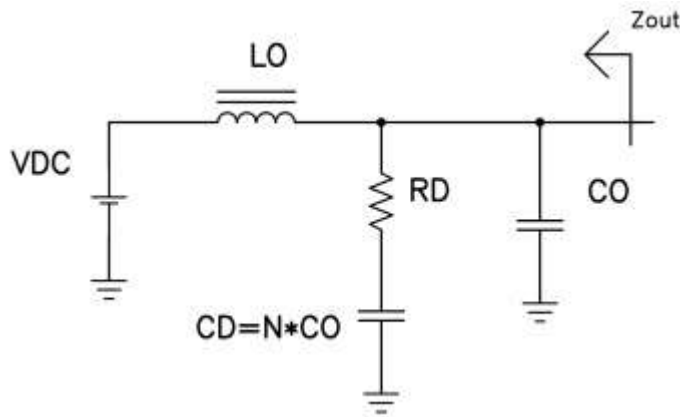

Figure 1: CD and RD damp the output
The design of an input filter usually begins with selection of an input capacitor (CO of Figure 1) based on ripple current rating or hold-up requirements. The next step usually involves selecting an inductor (LO) based on the system's EMI requirements. As we saw last month, near resonance the source impedance of these two elements can be quite high, leading to an unstable system. Figure 1 presents a method to control this impedance by placing a series resistor (RD) and **capacitor** < <http://www.powermanagementdesignline.com/encyclopedia/defineterm.jhtml?term=capacitor&x=&y=>> (CD) in parallel with the input filter. The filter could be damped with just a resistor across CO. However, in most cases the power loss would be unacceptable. An alternative method is to add a series connection of an inductor and resistor across the filter inductor.